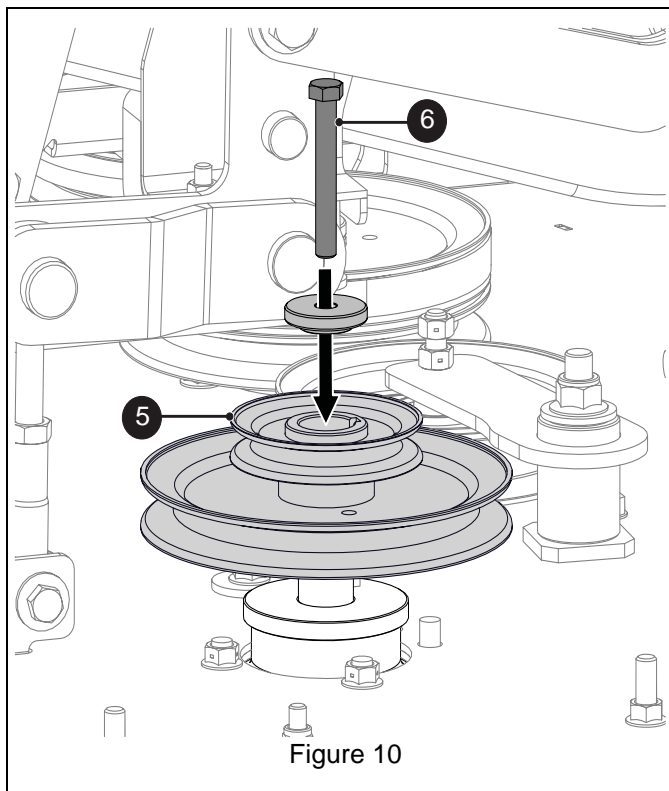

Figure 10
1. Install double pulley (item 5) on spindle. Retain pulley with $3/8" \times 2 \ 3/4"$ bolt (item 6) and torque to 54 N•m – 66 N•m (40 lb-ft – 49 lb-ft). See Figure 10.